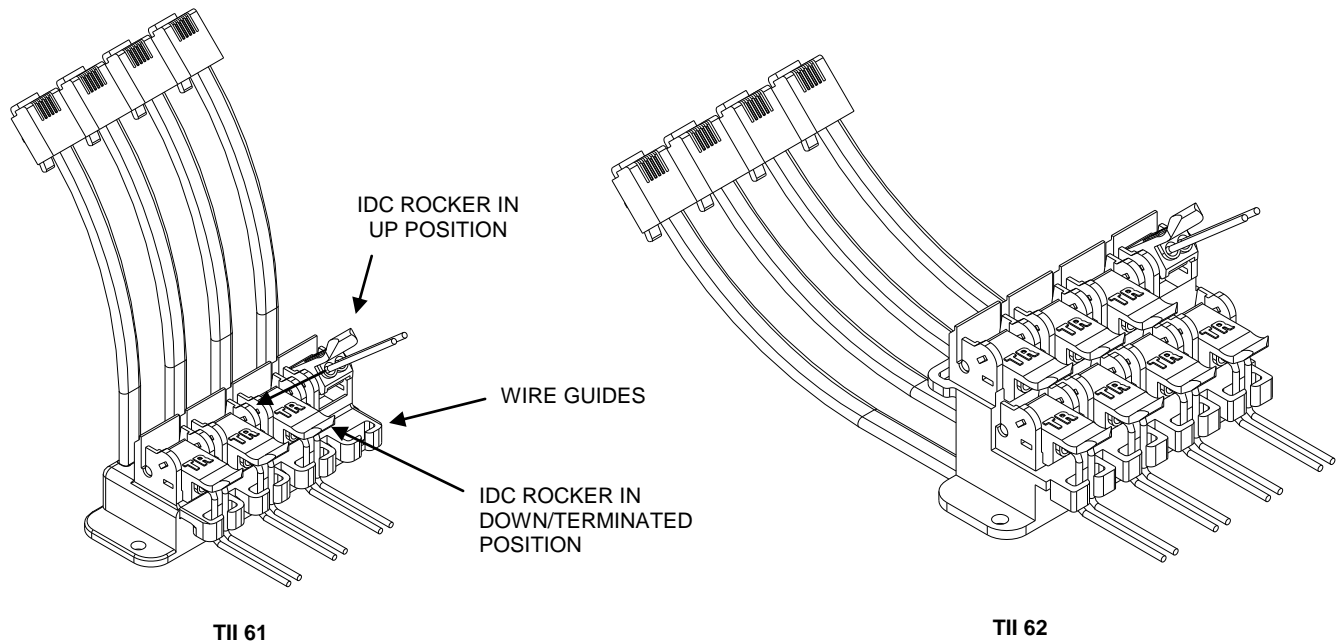

Figure 1
- To keep wire pairs organized, route them through the molded wire looms as shown in Figure 1.